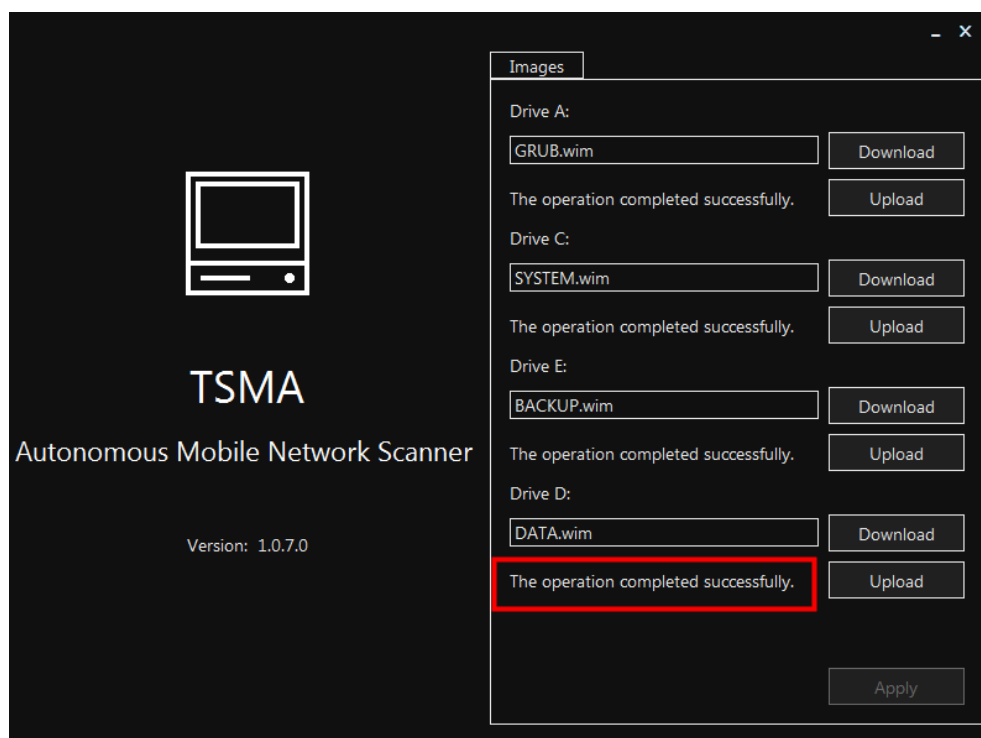

Figure 4-12: File Transfer Finished - "The operation completed successfully"
- When the file transfer has finished for any image file (see Figure 4-12), remove the TSMA Recovery Stick.